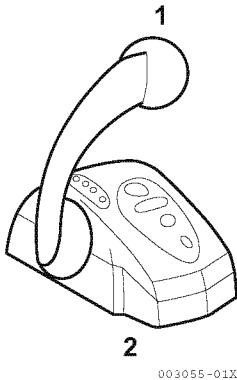

Figure 1
- 3. Set the control lever on the control head (2, **Figure 1**) in N (neutral) (1, **Figure 1**) position.